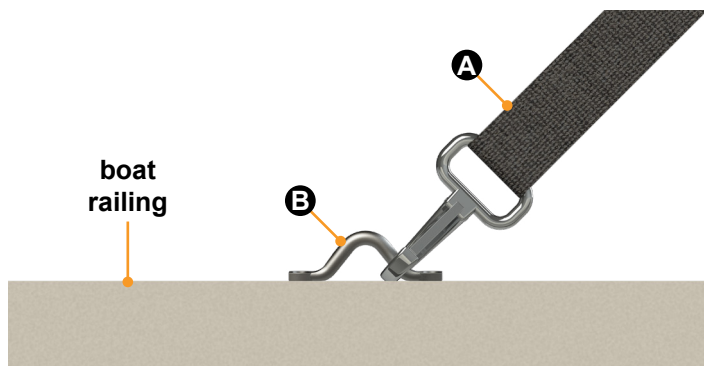

Fig.18
F. Attach the tie-down straps' clips to the saddles (Fig.18).